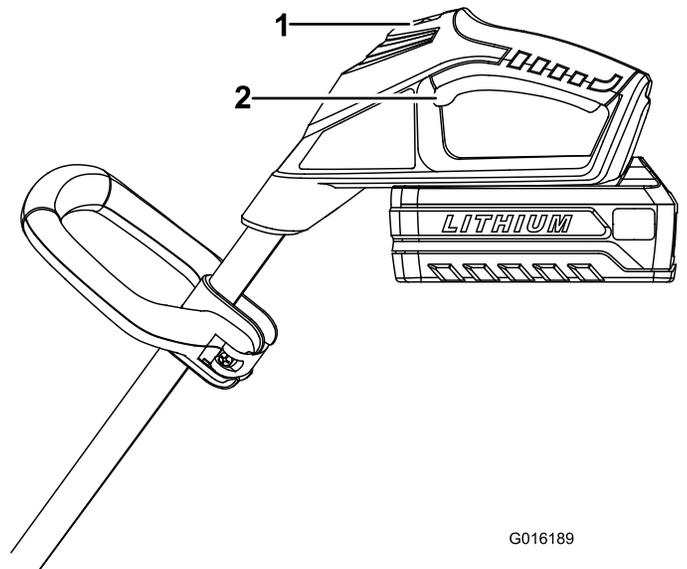

Figure 7
- To start the trimmer, slide the lock switch back to the On position, then squeeze the trigger (Figure 7).